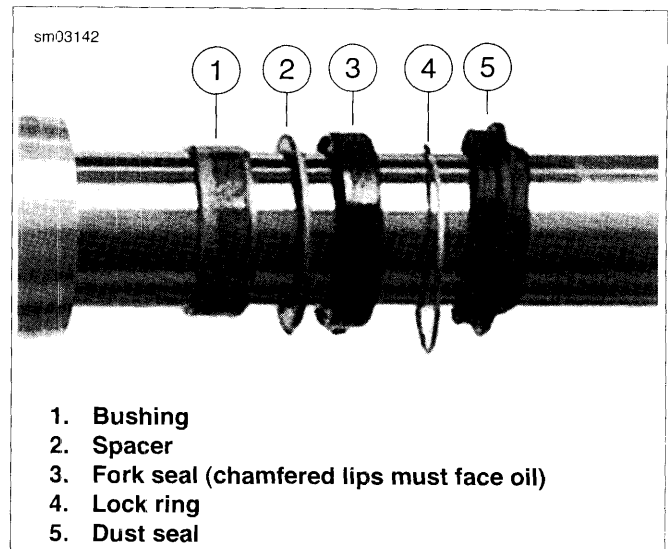

Figure 2-165. Fork Tube Shown Installed In Order of Installation
1. See Figure 2-165. Use sleeve from fork seal driver and install chrome dust cover (not shown) and components onto fork slider in order shown.